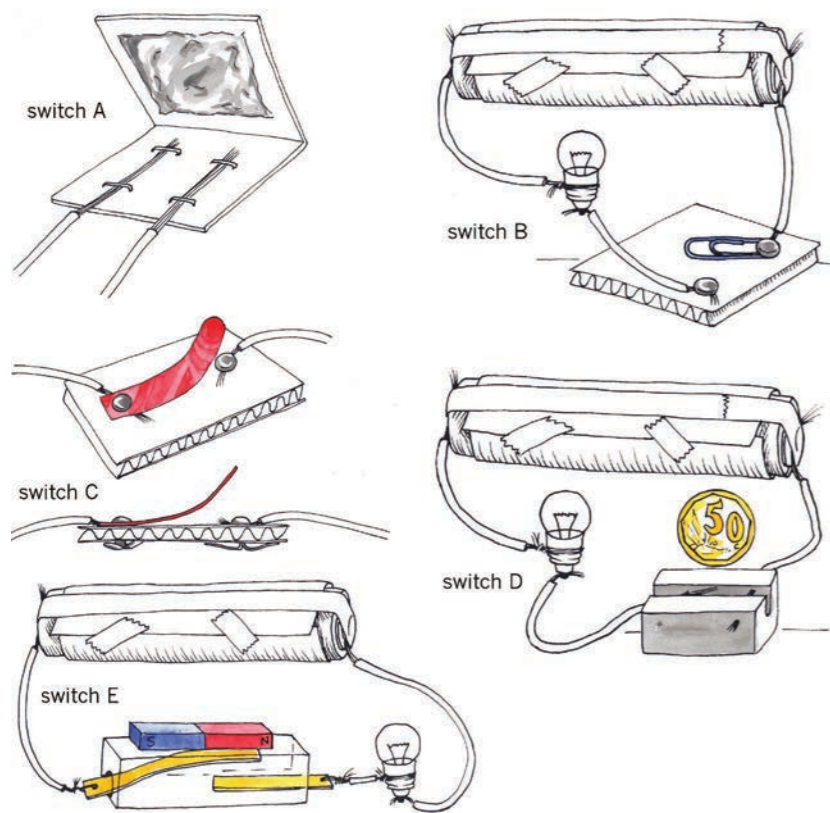

Figure 13: More ideas for making switches
3. Look at the ideas for switches in Figure 13. Explain how each one will work.